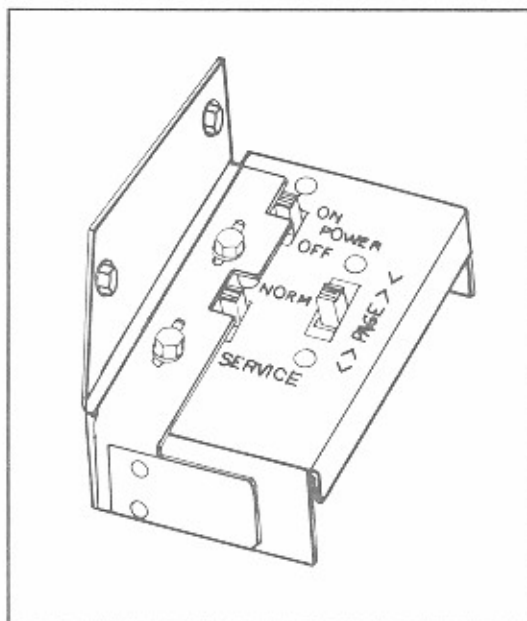

Figure 2-5 Service Switch
7. Repeat steps 4 and 5 until all titles are installed. Use the PAGE switch (*figure 2-5*) to change title rack pages. Insert filler title strips (Part Number 30940601) to fill out any unused space left on a page. Insert these in the same way that you installed the fill-in title strips.
2. Move the SERVICE switch to the SERVICE position, if not already done (refer to figure 2-5).
2. Move the SERVICE switch to the SERVICE position, if not already done (*refer to figure 2-5*).